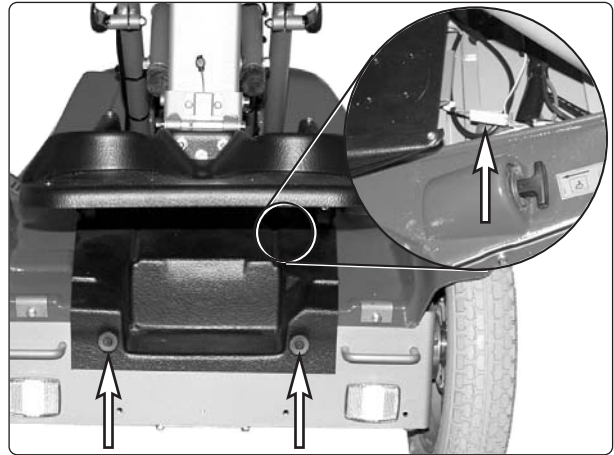

Fig. 8. The battery cover is attached by two knobs at the front edge. Be careful with the anti-trap mechanism cable.
2. Unscrew the two knobs that hold the front edge of the battery cover, see fig. 8.
3. Lift the battery cover at the front edge and move it backwards. Disconnect the connector in the cable to the anti-trap mechanism before you lift the cover off completely, see fig. 8.